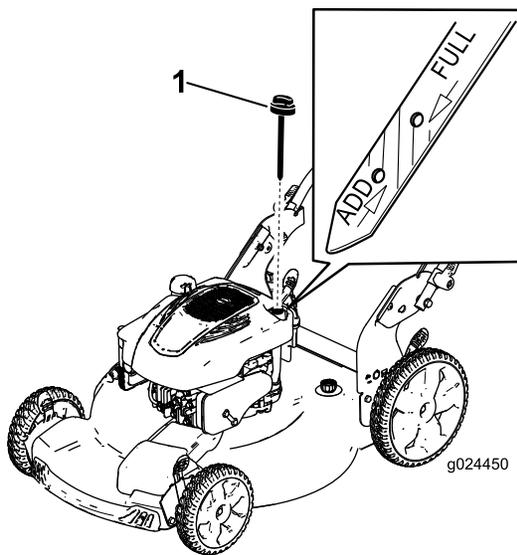

Figure 11
2. Remove the dipstick (Figure 11).
5. Read the oil level on the dipstick (Figure 11).